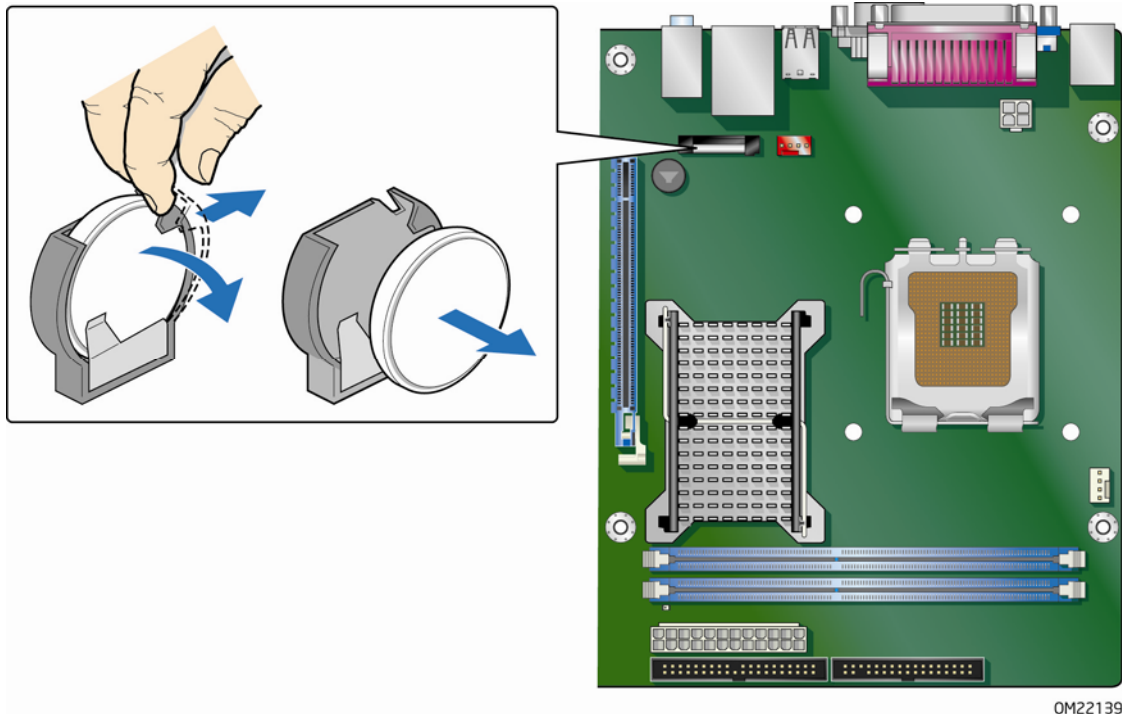

Figure 26. Removing the Battery
When the voltage drops below a certain level, the BIOS Setup program settings stored in CMOS RAM (for example, the date and time) might not be accurate. Replace the battery with an equivalent one. Figure 26 on page 61 shows the location of the battery.
4. Locate the battery on the board (see Figure 26).
5. Gently lift the battery retention clip away from the battery holder as shown in Figure 26. The battery will "pop" out of the holder and you can then remove the battery. Note the orientation of the "+" and "-" on the battery.